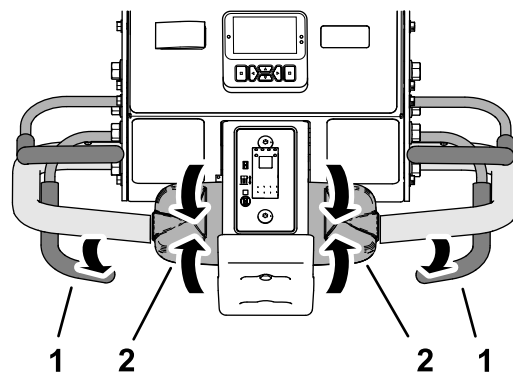

Figure 89
1. If you lowered the coring head, release the aerate bail (Figure 89).